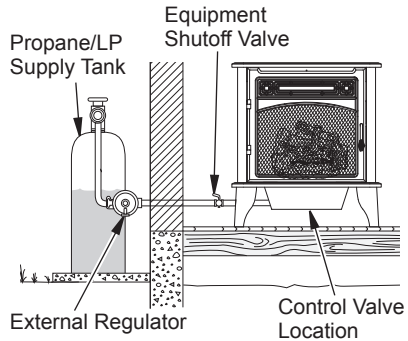

Figure 11 - Checking Gas Joints for Propane/LP Gas
3. Check all joints from gas meter to equipment shutoff valve for natural gas or propane/LP supply to equipment shutoff valve for propane/LP (see Figure 11 or 12). Apply a noncorrosive leak detection fluid to all joints. Bubbles forming show a leak.
4. Check all joints from equipment shutoff valve to control valve (see Figure 11 or 12, page 14). Apply a noncorrosive leak detection fluid to all joints. Bubbles forming show a leak.